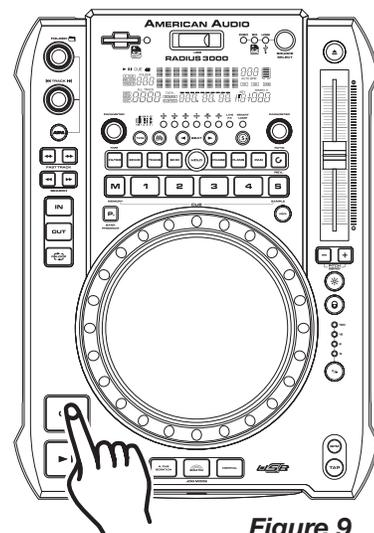

Figure 9
### 7. AUTO CUE - *Figure 9*
This feature allows you to scroll through a track frame by frame, allowing you to find and set a starting cue, sample, or loop point. To use the scroll function you must first be in Pause Mode or Cue Mode. Once you are in Pause or Cue mode, turn the *JOG WHEEL (9)* to scroll through the track (*Figure 10*). Turning the wheel in a clockwise direction will advance the frame search and turning the wheel in a counter-clockwise direction rewinds the frame search. When you use the *JOG WHEEL (9)* the monitor (headphone level) function allows you to here what you are scrolling through. Once you reach your desired starting point you can set a cue (starting) point by pressing the *PLAY/PAUSE BUTTON (13)* as in *Figure 9*. Pressing the *CUE BUTTON (14)* as in *Figure 9* will now return you to the point you just set.